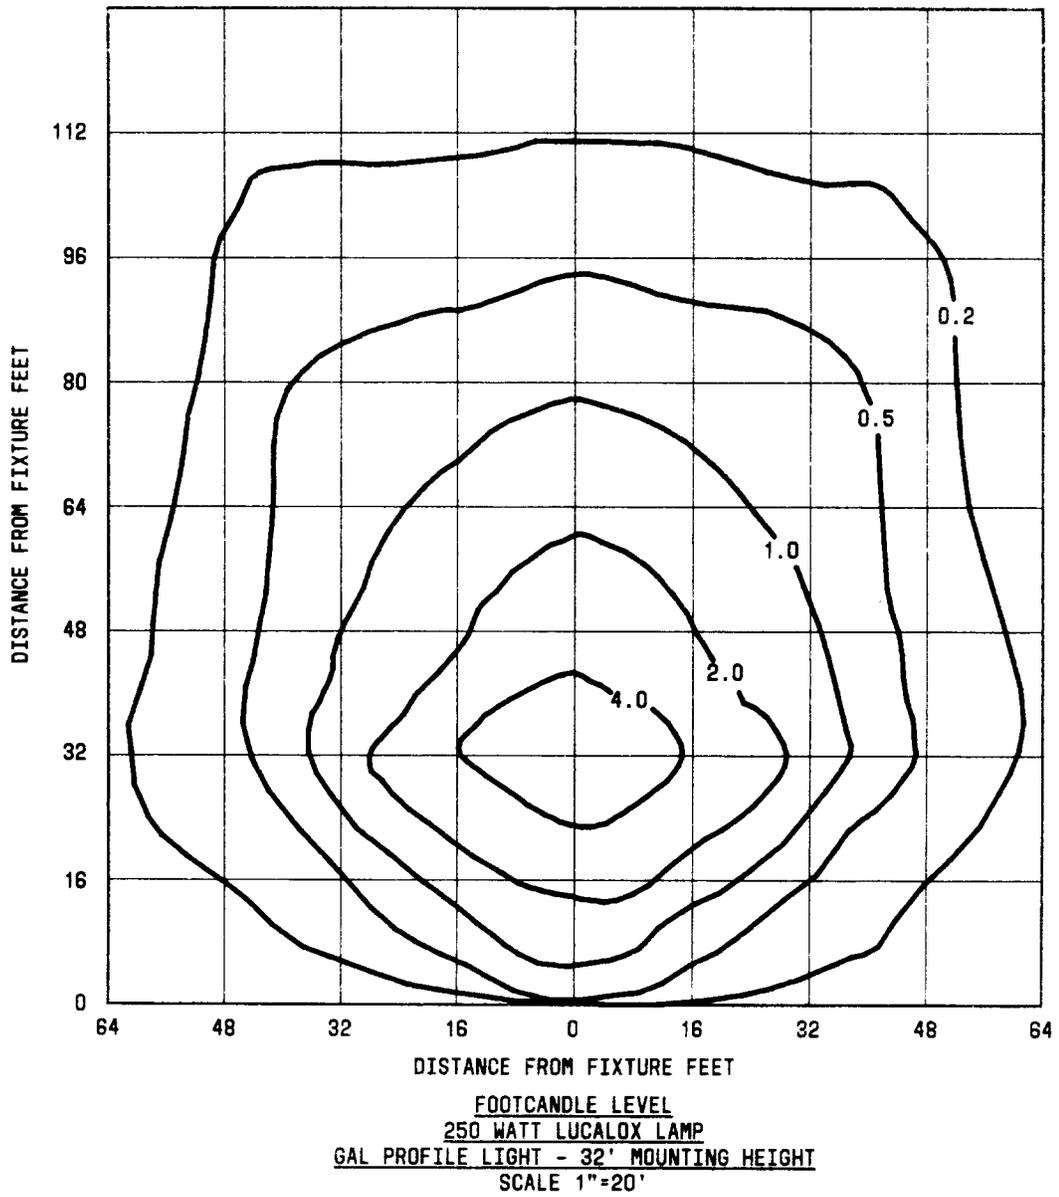

Fig. 2—Isofootcandle Diagram
2.07 Isofootcandle diagrams can be obtained from the manufacturers of most fixtures. If these are reproduced as overlay transparencies, to scale, a selection of the pole locations, heights, and lamp sizes to light the area to the desired level can be quickly made. Figure 2 is a sample of such a diagram. The design level for parking areas should be 0.5 footcandles maintained.